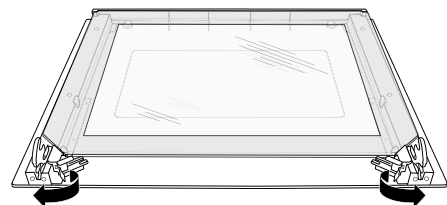

Fig. 3
3. Open the door rotation bracket assembly by performing the action shown in Fig.3.